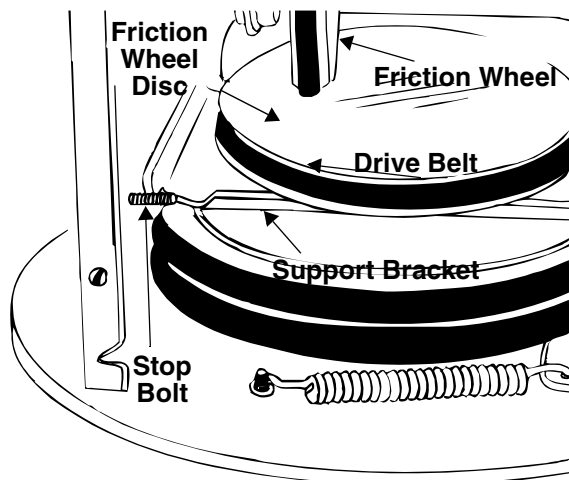

Figure 25
7. Back out the stop bolt to allow the belts to slip between the bolt and auger pulley. See Figure 25.
**NOTE:** The support bracket must rest on the stop bolt after the new belt has been assembled. See Figure 25.